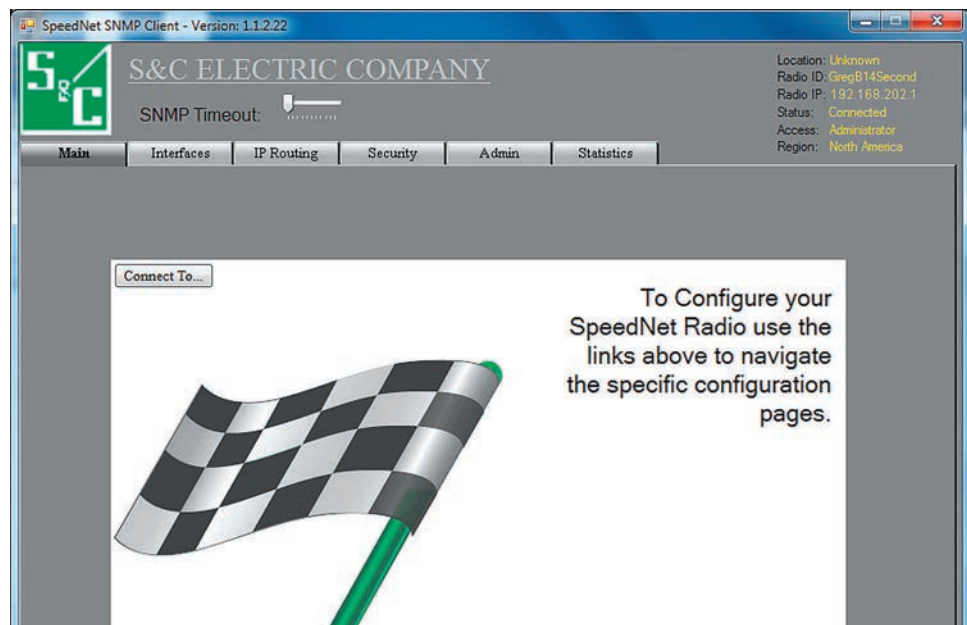

Figure 23. *Main* screen for SpeedNet configuration.
STEP 6. The *Main* screen will open, as shown in figure 23. Click on the **Interfaces** tab.